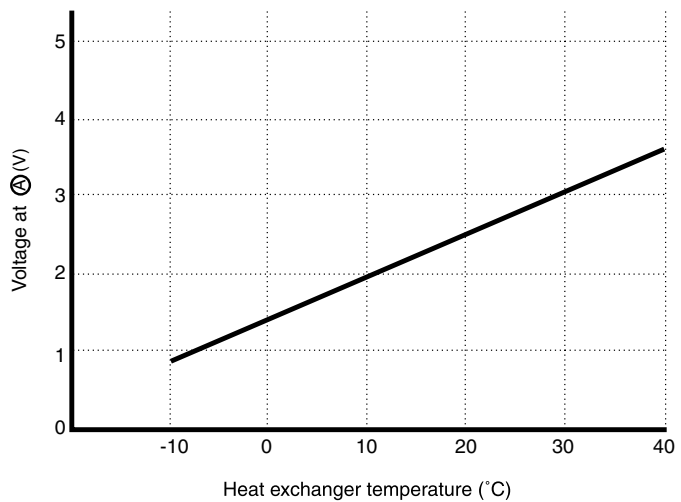

Fig. 7-2
The voltage at (A) depends on the heat exchanger temperature as shown in Fig. 7-2.